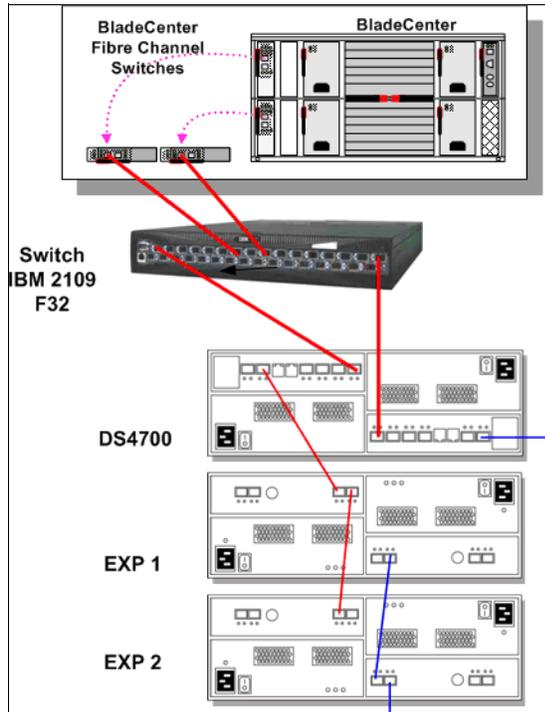

Figure 10-34 BladeCenter
1. Connect a fiber cable from DS4500 controller B to the 2109-F32 switch (Figure 10-34).